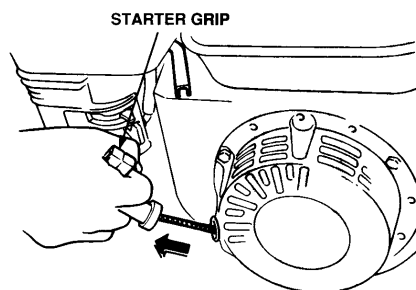

Figure 23. Starter Grip
11. If starting your welder-generator by the **recoil start method** (no battery), place the operational switch in the **ON** position, then grasp the starter grip (Figure 23) and slowly pull it out. The resistance becomes the hardest at a certain position, corresponding to the compression point. Pull the starter grip briskly and smoothly for starting.